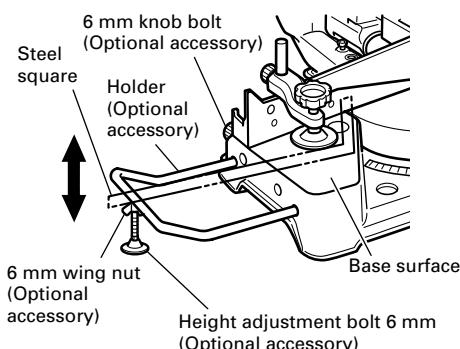

Fig. 13
- (1) As indicated in Fig. 13, use a steel square for aligning the upper edge of the holders with the base surface. Loosen the 6 mm wing nut. Turn a height adjustment bolt 6 mm, and adjust the height of the holder.
- (2) After adjustment, firmly tighten the 6 mm wing nut and fasten the holder with the 6 mm knob bolt (optional accessory). If the length of Height Adjustment Bolt 6 mm is insufficient, spread a thin plate beneath. Make sure the end of Height Adjustment Bolt 6 mm does not protrude from the holder.